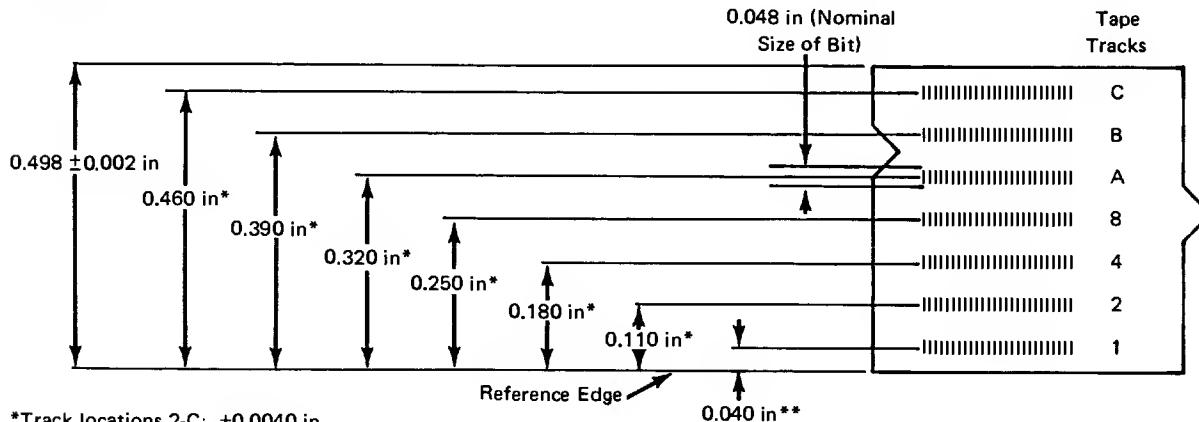

Figure 28. Track Spacing for Seven- and Nine-Track Tape
*Track Spacing:* See Figure 28.
**Track Spacing:** See Figure 28.